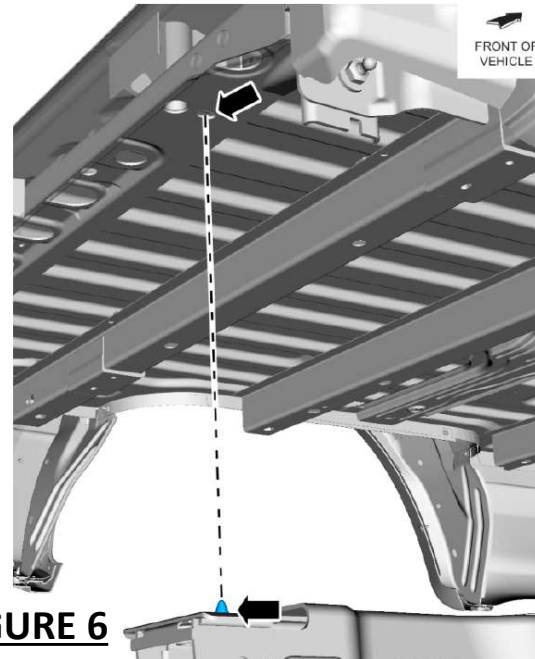

FIGURE 6
- Ensure the locating pins shown in figure 6 are properly installed to both the pickup frame and pickup bed to prevent misalignment.